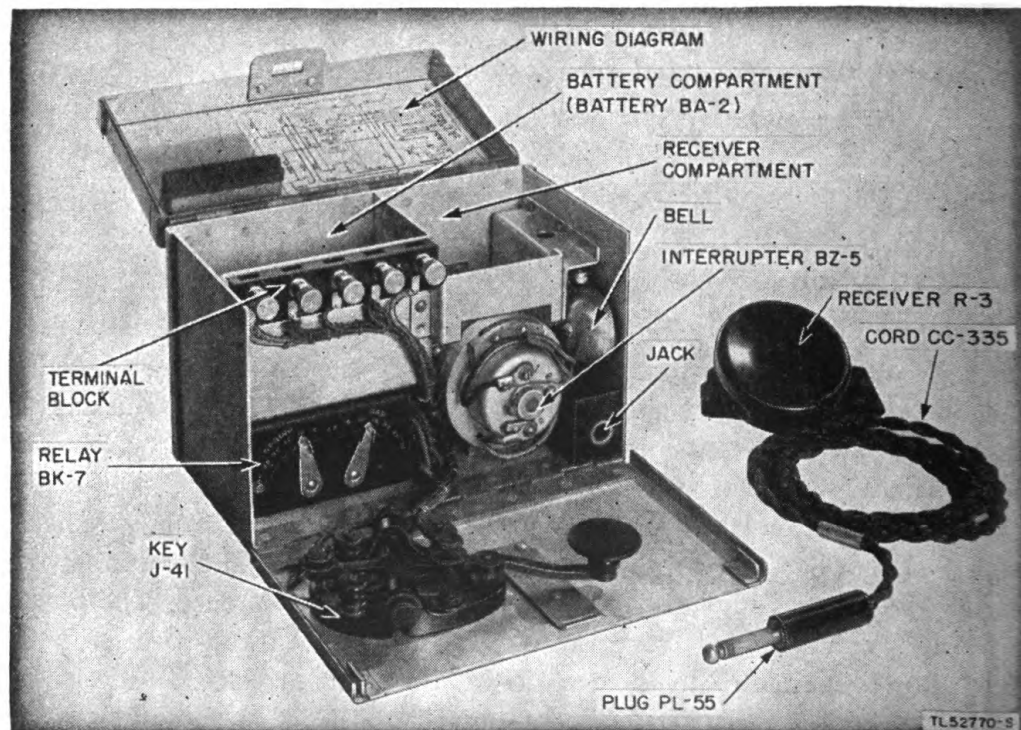

Figure 3. Telegraph Set TG-5, cover open.
b. **Box** (figs. 3, 4, and 5). The box which contains the circuit elements of Telegraph Set TG-5-(*) is constructed of sheet metal and is approximately 5½ inches high, 10 inches long, and 5½ inches deep. The box is provided with a hinged front and cover. When closed, the cover projects over the front edge of the box and holds the front in place. In the closed position a spring catch on the front engages with a hasp mounted on the cover and serves to hold the cover closed. When open, the front folds down
c. **TERMINAL BLOCK.** (1) The terminal block on Telegraph Set TG-5 is fastened to the front of the battery compartment with two screws. It consists of a piece of bakelite 4 inches long, $7/16$ inches wide, and $5/16$ inches thick. Five Binding Posts TM-150 are mounted on the terminal block and are labeled from left to right $-3V$, $+$, $22V-$, L1, and L2. (See fig. 3.)
d. **RELAY BK-7-(*)**. (1) *Relay BK-7*. Relay BK-7 is used in Telegraph Set TG-5 only. The relay is contained in a black bakelite housing and is mounted on the left side of the box just below the battery compartment. The front of the relay contains two levers for the adjustment of the relay spring tension and the armature air gap. The lever on the left is labeled SPRING and the one on the right GAP. Both levers move over a scale graduated from 0 to 30. (See fig. 3.)
e. BELL (figs. 3, 4, and 5). The bell used in Telegraph Set TG-5-(*) is a d-c vibrator type and is fitted with a $1\frac{1}{4}$ -inch gong. A small screw on the side of the bell frame provides a means of adjusting the distance between the fixed contact and the movable contact mounted on the clapper arm. In Telegraph Set TG-5 the bell is mounted between the receiver compartment and the right side of the case. In Telegraph Sets TG-5-A and TG-5-B the bell is mounted directly under the relay.
f. INTERRUPTER BZ-5 (fig. 3). Interrupter BZ-5 is part of Telegraph Set TG-5 only. The interrupter (howler) serves as a local tone source for the operator and consists of a double carbon button mounted against the diaphragm of a telephone receiver. When operating, the interrupter produces a steady tone of approximately 1,000 cycles per second. The interrupter is mounted in front of the receiver compartment by means of two screws through the bottom of the box.
j. JACK JK-35 (figs. 3, 4, and 5). Jack JK-35 is a tip-sleeve type jack with an extra set of contacts, equivalent to a single-pole, double-throw
k. KEY J-41-(*) (figs. 3, 4, and 5). Key J-41-(*) is an open-circuit telegraph type key mounted on a molded phenolic base which, in turn, is mounted on the folding front portion of the box. The key contains two sets of contacts, one set toward the front of the key lever and the other at the back. In the normal position, the front contacts are open and the back contacts are closed. Three binding posts, two on the right and one on the left, are provided for connecting the key into the circuit. A knurled screw and locknut at the rear of the key lever provides a means of adjusting the opening between the front contacts. Another knurled screw and locknut toward the front of the lever is used to adjust the tension of the spring which keeps the front contacts open. The key lever is mounted on the frame by means of two knurled screws threaded through the sides of the frame.
l. HEADSET HS-20 (figs. 3, 4, and 5). Headset HS-20 consists of Receiver R-3, Cord CC-335, and Plug PL-55.
(1) The receiver is the magnetic type having a d-c resistance of approximately 80 ohms. The receiver is contained in a watch type case having an adjustable web headband fastened to brackets on the sides of the case.
(2) The cord consists of approximately 4 feet of two-conductor, twisted, rubber- and braid-covered cord terminating in Plug PL-55.